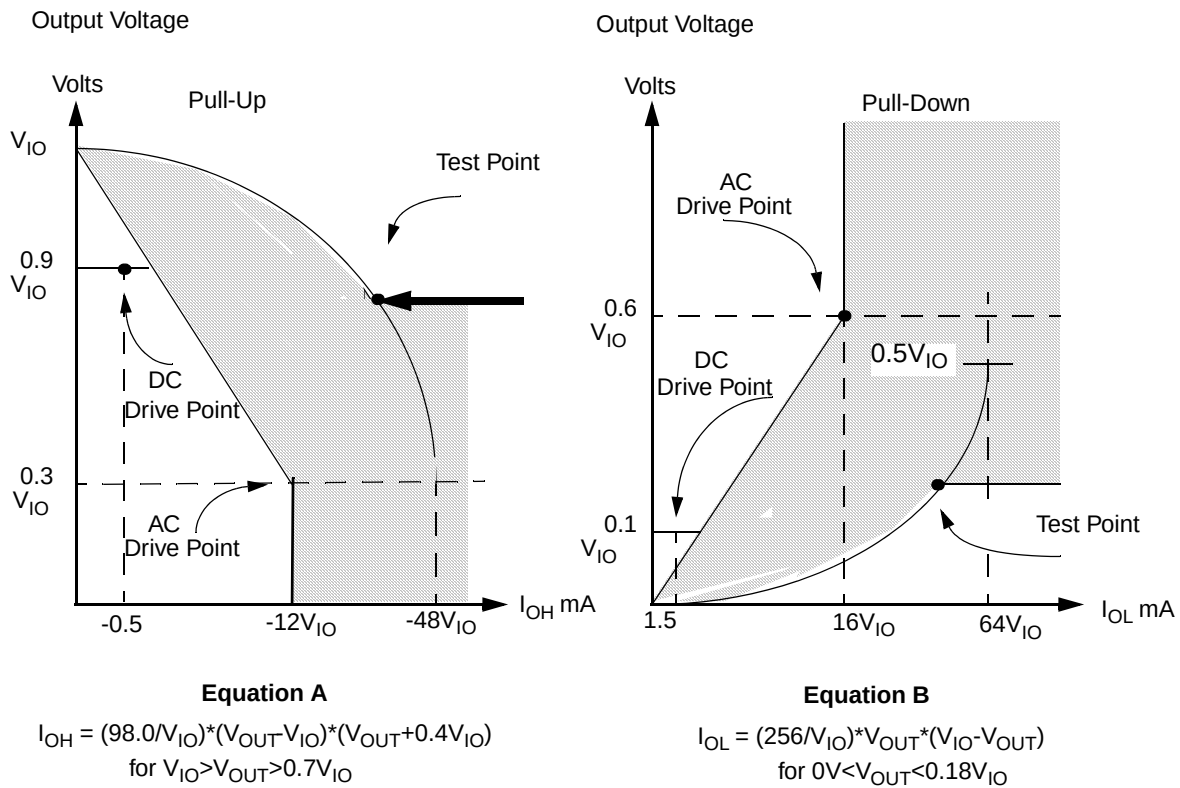

Figure 7-11. V/I Curves for PCI Output Signals
The SC1100 is compliant with PCI Bus Rev. 2.1 specifications. Relevant information from the PCI Bus specifications is provided below. Not all parameters in Table 7-12 are 100% tested. The parameters in this table are further described in Figure 7-11.
1. Refer to the V/I curves in Figure 7-11. This specification does not apply to PCICLK0 and PCIRST# which are system outputs.
2. Maximum current requirements are met when drivers pull beyond the first step voltage. Equations which define these maximum values (A and B) are provided with relevant diagrams in Figure 7-11. These maximum values are guaranteed by design.